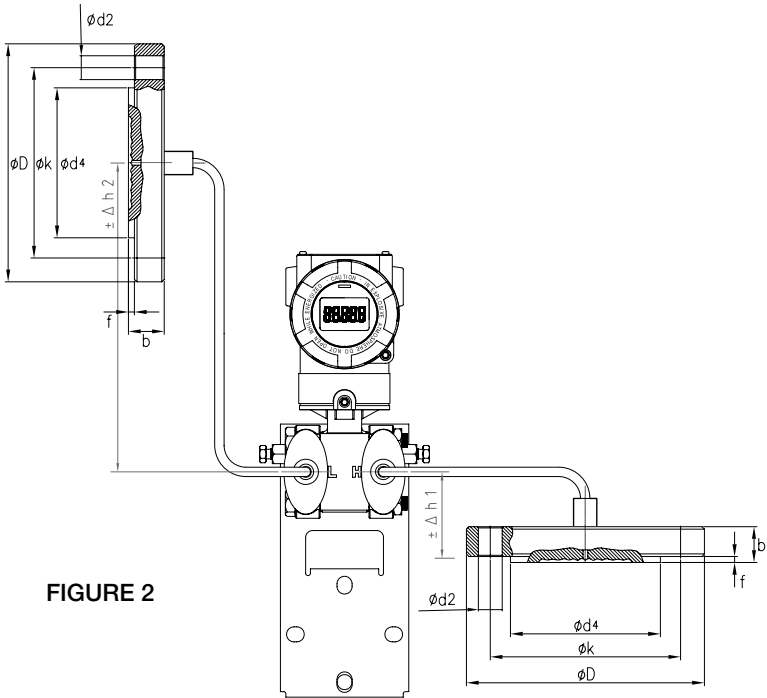

FIGURE 2
- 3. Orientation of Diaphragm Seals at High Pressure Port (see Page 3, Figure 2)
- 4. Orientation of Diaphragm Seals at Low Pressure Port (see Page 3, Figure 2)
- PAD Higher than DRM at High Pressure Port (Fig. 2 or 3), Specify $+\Delta h$ (1): _____
- PAD Lower than DRM at High Pressure Port (Fig. 2 or 3), Specify $-\Delta h$ (1): _____
- PAD Higher* than DRM at Low Pressure Port (Fig. 2), Specify $+\Delta h$ (2): _____ (*Not for PAD-G)
- PAD Lower* than DRM at Low Pressure Port (Fig. 2), Specify $-\Delta h$ (2): _____ (*Not for PAD-G)